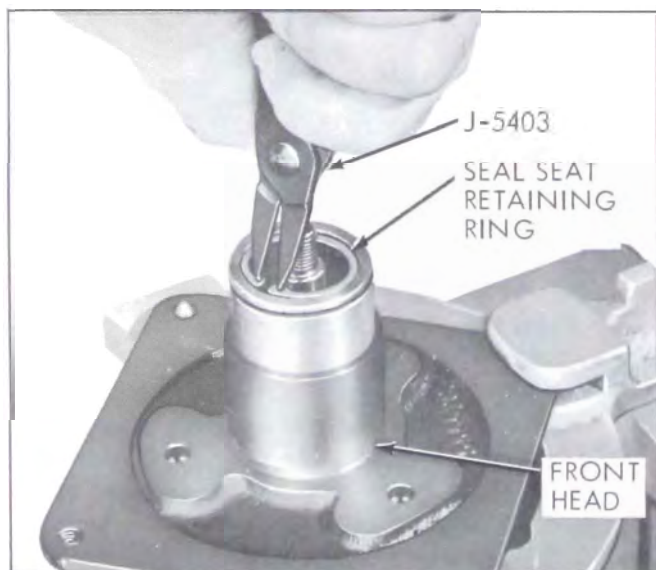

Figure 11-49—Removing Shaft Seal Seat Retaining Ring
2. Remove shaft seal seat retaining ring from inside front head, using J-5403, No. 21 Truarcl pliers. See Figure 11-49.